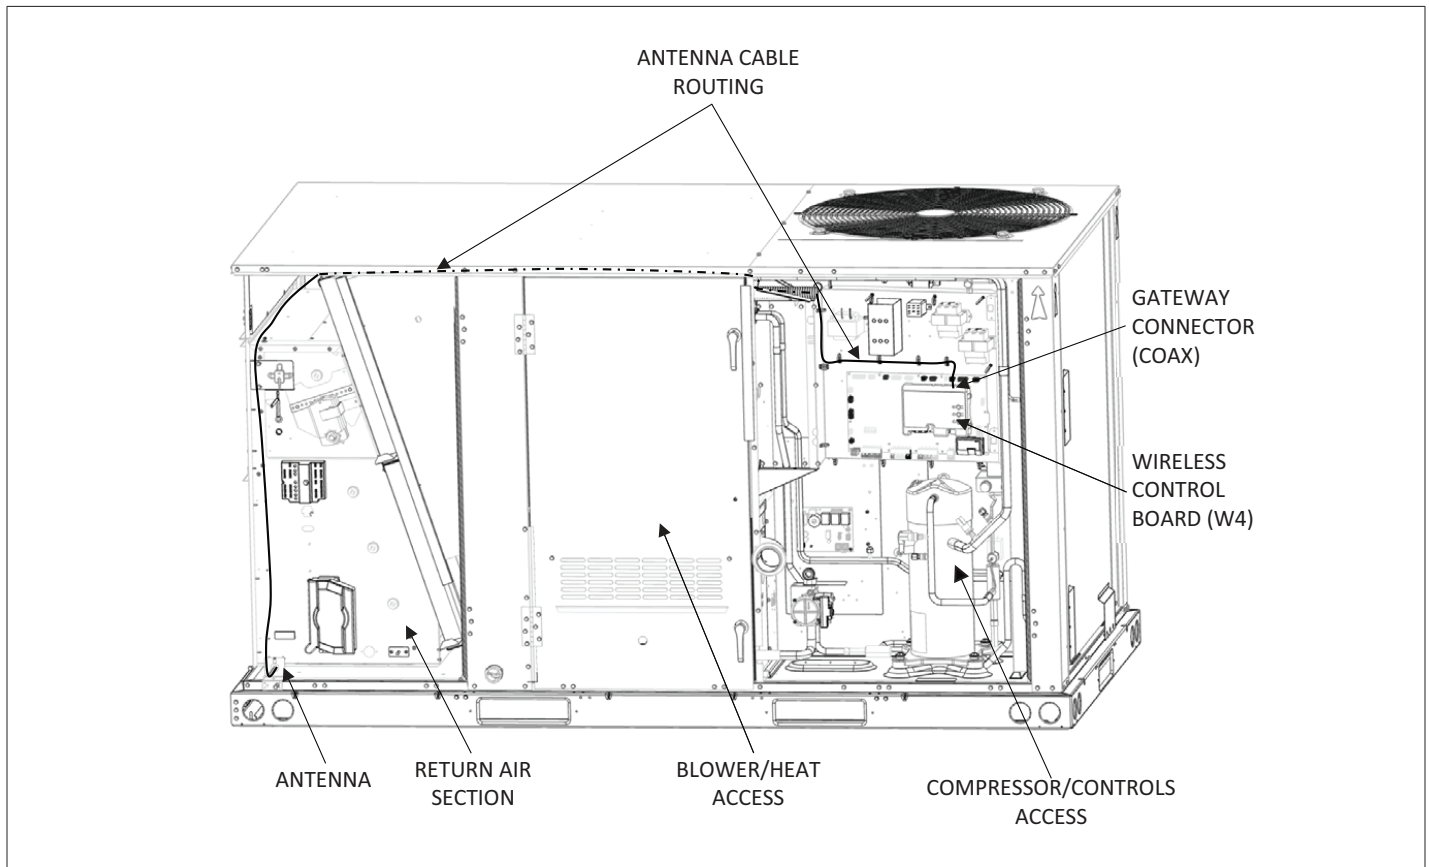

Figure 3. Antenna Mounting Location and Cable Routing - LCM/LGM036-074
This instruction provides procedures on installation of the Core Unit Controller (M4/W4) wireless antenna on various roof top units. Refer to figures 3 - 7 for the applicable roof top unit (RTU) usage.
NOTE: Note the routing path. Refer to figures 3 - 7 for the applicable RTU routing.
2. Route the cable along low voltage wires and separate from high voltage wires in the same manner as the previous cable was removed and routed. Refer to figures 3 - 7 for the applicable RTU routing.